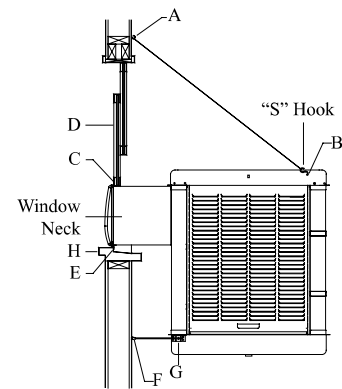

Fig. 2
- **NOTE: If installing unit without the use of the installation kit, omit these directions and those pertaining to Fig. 2.**
- **Screw chain hooks into window facing.** Position the two chain hooks above the neck of the cooler a distance equal to the width of the cooler apart (A-Fig. 2). Hook one hanger chain in each hook and then one “S” hook in the other end of each chain.
- **Position cooler in window.** Position neck of cooler so that bottom of neck flange rests on window sill and flange (E-Fig. 2) is snug against edge of sill (H-Fig. 2). With cooler in position, hook the "S" hooks into the holes of the top pan near the back of the cooler (B-Fig. 2).
- **Place window behind retainer strip.** Raise back of cooler so that the window (D-Fig. 2) may be brought down behind top of panel retainer strip (C-Fig. 2).
- **Adjust house legs.** Pull out house legs so that the rubber bumpers rest against house siding (F-Fig. 2). Tighten screw in retaining collar. (G-Fig. 2).